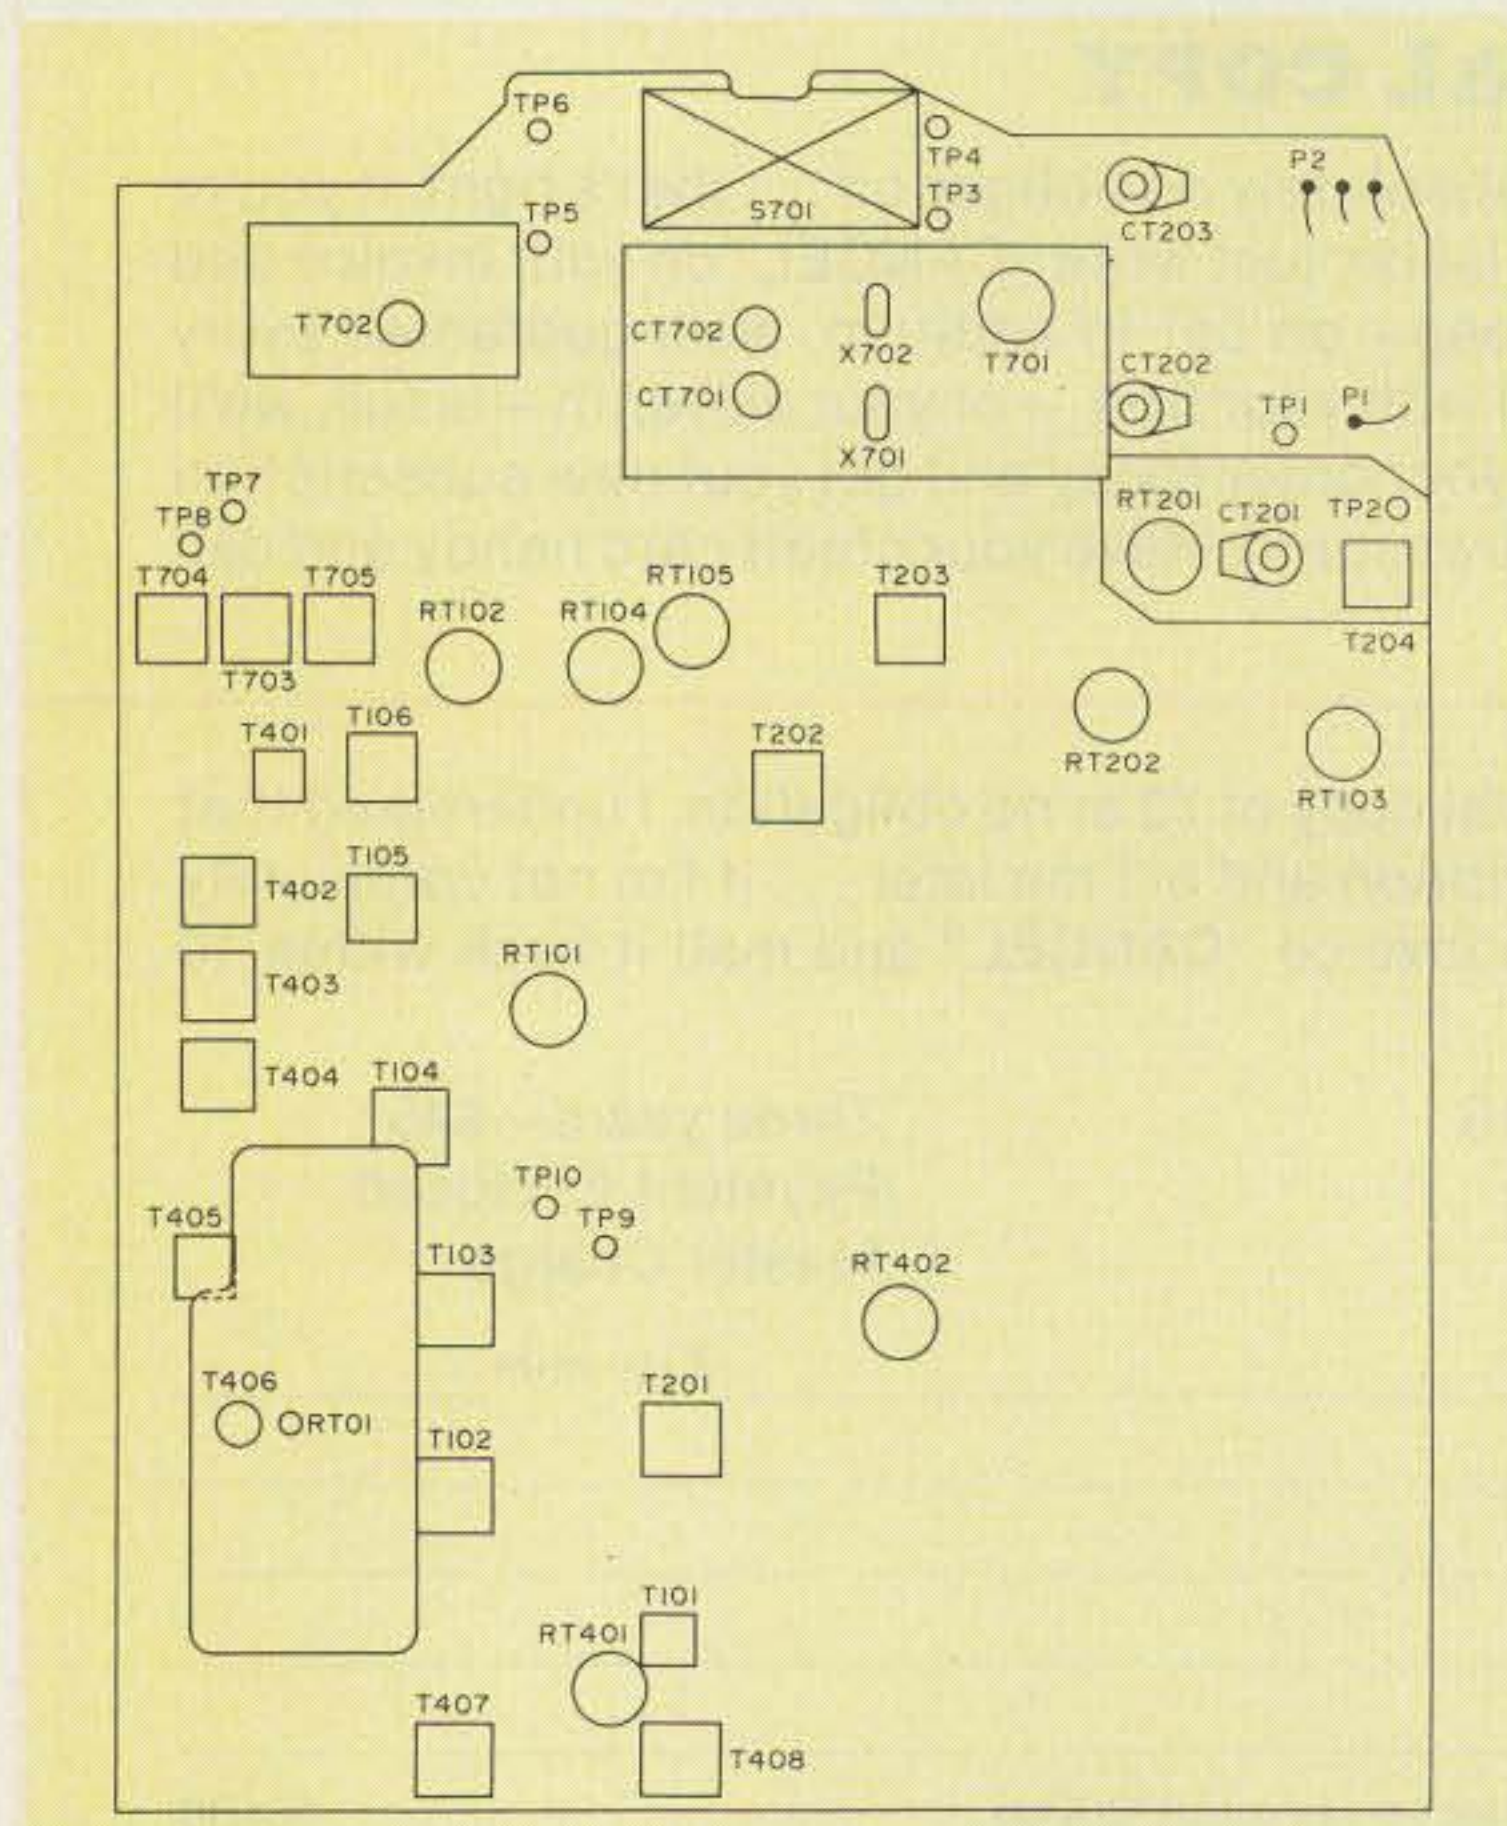

Fig. 1. Component location diagram.
box behind the channel switch (see Fig. 1). It will be necessary to remove the three screws securing it to the main PCB and then to unsolder the sides of the box from the bottom of the box. This is no problem with the aid of a solder wick. Remove the local oscillator board from the can and replace X701 with the new crystal.
1. Refer to Fig. 1 for component locations. A frequency counter and oscilloscope will make the job easier if problems develop, but if you don't have these instruments, don't worry. With the set tuned to channel 18, adjust T702 to obtain a dc voltage across TP5 and TP6 (ground) of $3.0 \pm 0.1V$ and proceed to *Transmitter Alignment* instructions, below.